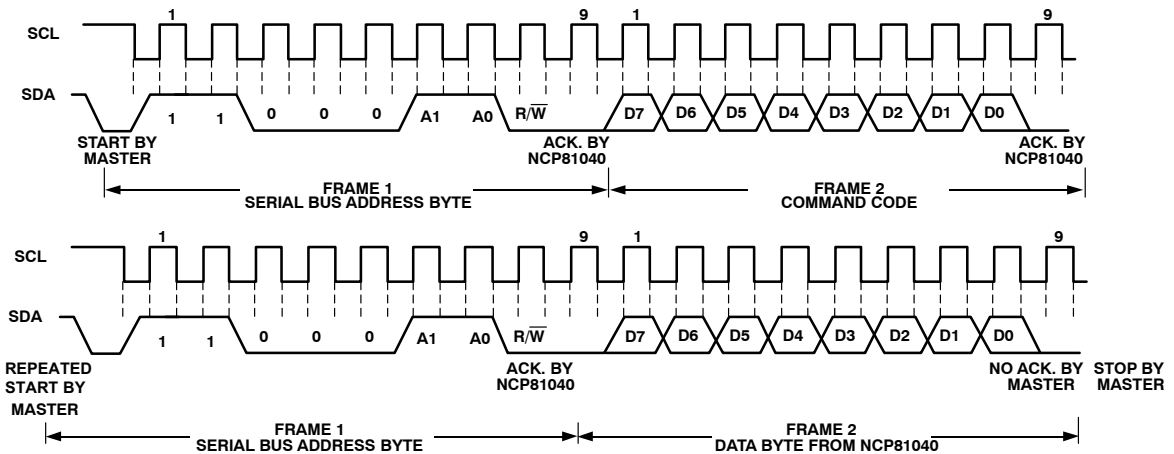

Figure 13. Read Byte
1. The read byte operation is shown in Figure 13. First the command code needs to be written to the NCP81040 so that the required data is sent back. This is done by performing a write to the NCP81040 as before, but only the data byte containing the register address is sent, because no data is written to the register. A repeated start is then issued and a read operation is then performed consisting of the serial bus address; R/\overline{W} bit set to 1, followed by the data byte read from the data register.